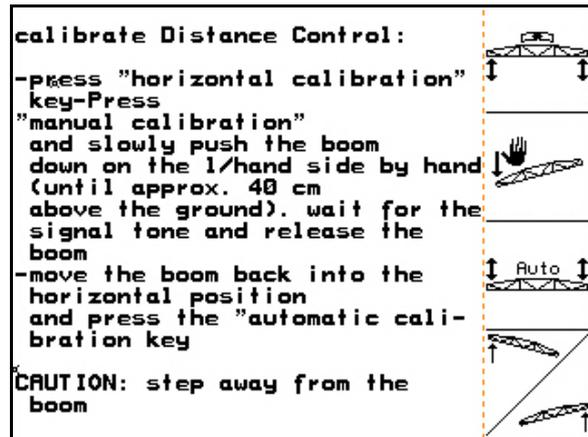

Fig. 31
1. (Fig. 31) Start the automatic calibration.